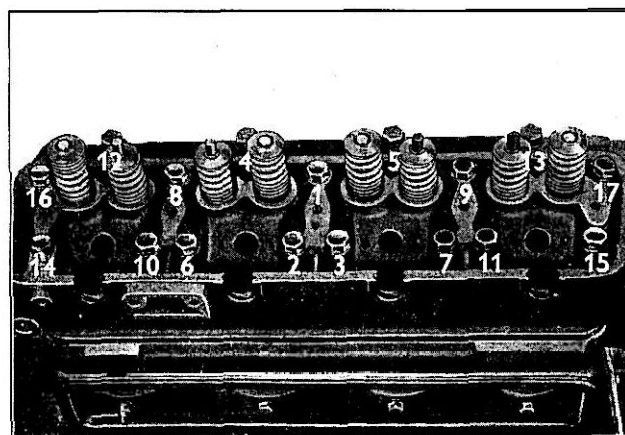

Fig. 5
- 3 Replace the cylinder head and screw in the seventeen bolts and tighten in the correct order, as shown in Fig. 5, to the correct torque shown in the specification.